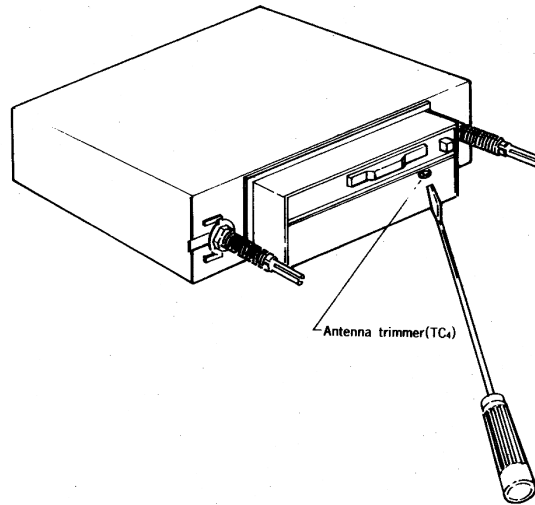

Figure 3-5. Antenna Trimmer Location
2. Adjust the Antenna Trimmer screw, TC4, as shown in figure 3-5 so that the noise output becomes maximum.